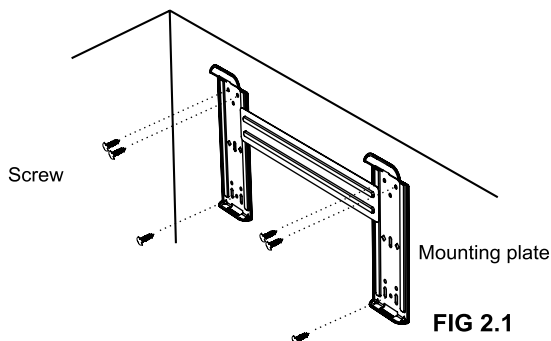

FIG 2.1
3. Mount the bracket on the wall using the 6 screws provided. Be sure that you are screwing directly into the two studs found earlier. If your wall does not have a stud, you will need to use wall anchors (Mollys) to secure the mounting bracket. (see figure 2.1)